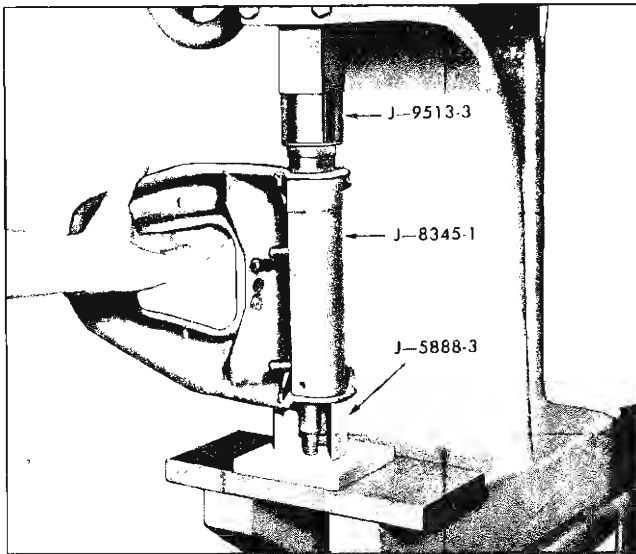

Fig. 46—Installing Pivot Shaft Bushing—Chevy II
3. Press bushing into place with Installer J-9513-3 (fig. 46).